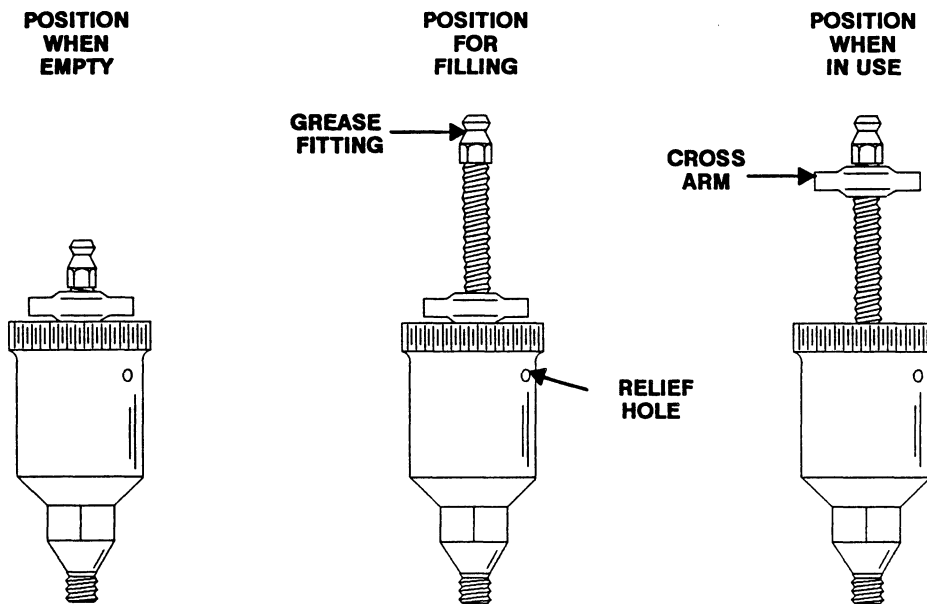

Figure 6. Automatic Lubricating Grease Cup
Fill the grease cup (27) through the grease fitting with No. 2 lithium base grease until grease escapes from the relief hole. Turn the grease cup arm counter-clockwise until it is at the top of the stem; this will release the spring to apply grease to the seal (see Figure 6).